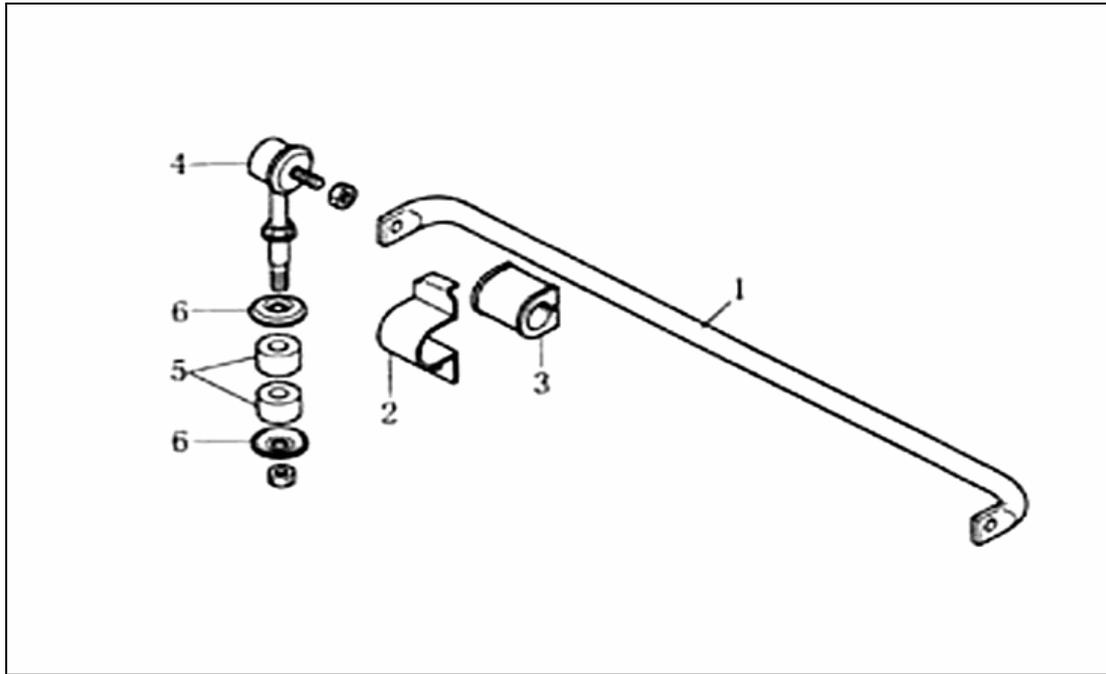

FIG.14-4
1 FRONT STABILIZER BAR (FIG.14-4)
- (1) Check front stabilizer bar and bracket for damage and distortion; replace them if necessary.(FIG.14-4)